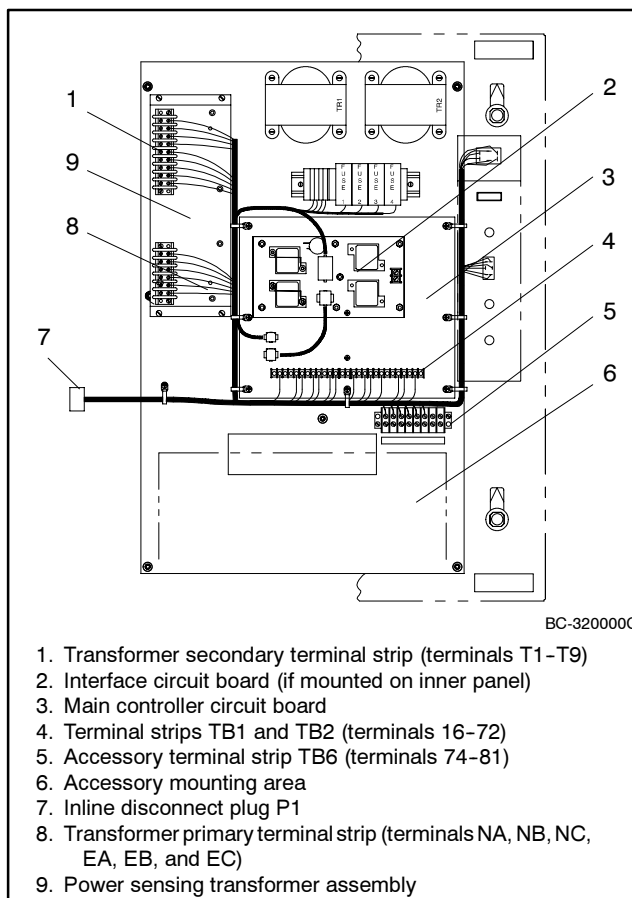

Figure 6-1 Typical S340+ Inner Panel Electrical Controls
The S340+ electrical control system (logic controller) is mounted on the inside of the enclosure door. See Figure 6-1.
The power switching device and the logic controller each has its own wire harness that terminates with an inline disconnect plug. See Figure 6-1. The factory sends the transfer switch with the inline disconnect plugs disconnected.
Follow the instructions in the power switching device operation and installation manual for the voltage check procedure to complete installation of the power switching device. If the operation and installation manual does not have a voltage check procedure, use the following general procedure. See Figure 6-1 to locate the controller's inline disconnect plug.
2. Disconnect the power switching device and logic controller wire harnesses at the inline disconnect plug (P1). See Figure 6-1.
16. Connect the power switching device and controller wiring harnesses together at the inline disconnect plug. See Figure 6-1.